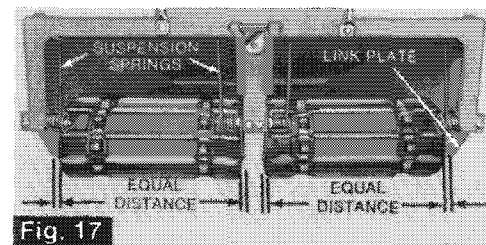

Fig. 17
1. Using wrench, loosen both track adjusters by loosening the lock nuts situated on the inner side of the suspension rear springs. (See Fig. 17).
1. Using wrench, loosen the adjuster lock nut (inner side of spring) on the side where the track is closest to the link plate. (See Fig. 17).